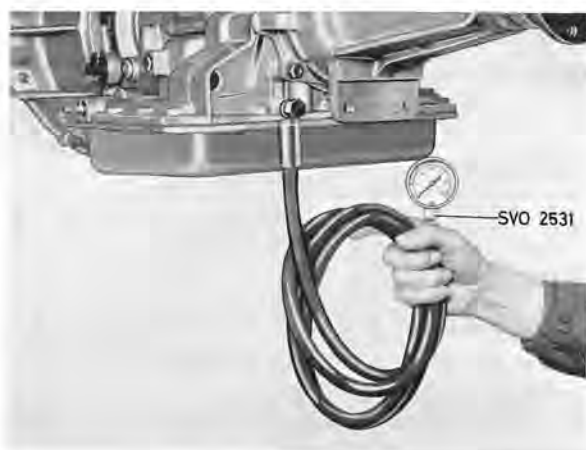

Fig. 4-73. Connecting pressure gauge
1. Connect a tachometer to the engine and pressure gauge to the transmission as shown in Fig. 4-73.
2. Chock the wheels and apply the brakes. Start the engine and move the lever to "D". Read off the pressure at 8.3 and 16.6 r/s (500 and 1000 r/m). At 16.6 r/s (1000 r/m) the gauge to the transmission as shown in Fig. 4-73, pressure should be 1.8–2.1 kp/cm² (25–30 psi) higher than at 8.3 r/s (500 r/m). If the pressure rise is less than 1.8 kp/cm² (25 psi), the effective length of the outer cable should be increased by means of the adjuster. Conversely, if the rise is more than 2.1 kp/cm² (30 psi) the effective length of the outer cable should be decreased.